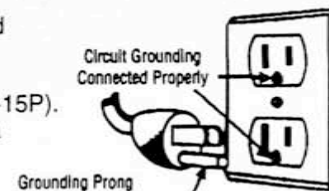

Fig. 1
• For your protection, Waring Commercial Food Processors are equipped with 3-conductor cordsets. 120 Volt units are supplied with a molded 3-prong grounding-type plug (NEMA 5-15P). This plug should be used in combination with a properly connected grounding-type outlet as shown in Fig. 1.